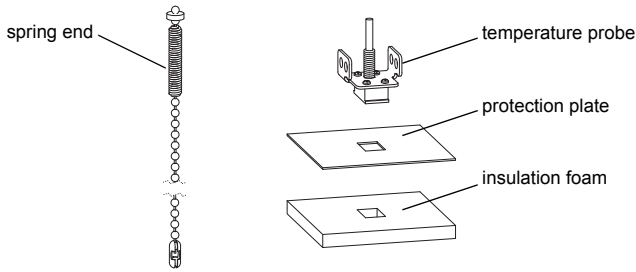

Fig. 9.5: Temperature probe
- Fix the protection plate and the insulation foam to the temperature probe (see Fig. 9.5).